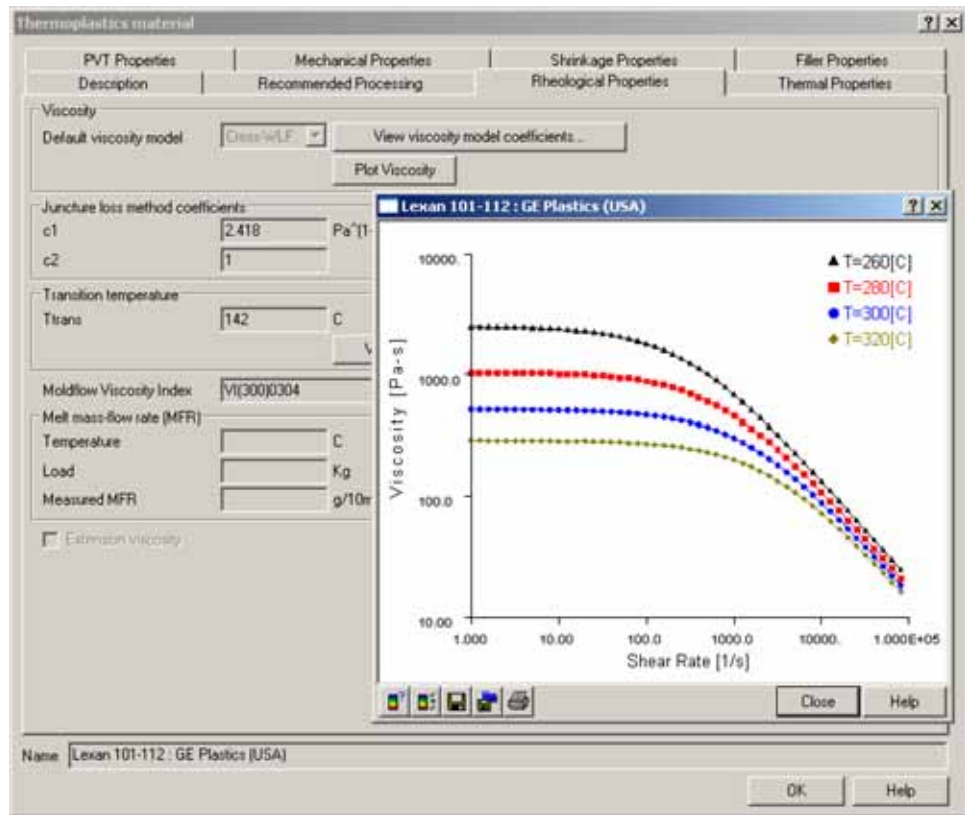

Figure 88: Material details
4. Click **Plot Viscosity**, as shown in Figure 88.